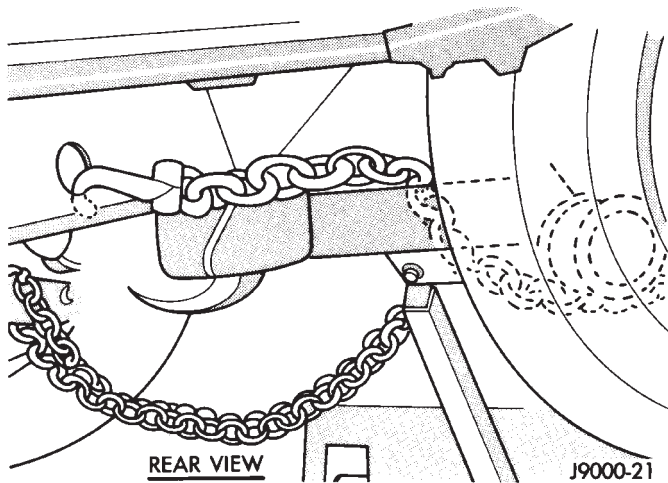

Fig. 5 Sling-Type, Front-End Towing (XJ Rear View)
- (1) Attach a J-hook to the disabled vehicle at the left side of the axle.
- (2) Position the sling crossbar close to the J-hook and below the front bumper.
- (3) Secure a chain to the right side of vehicle by placing it over the axle shaft tube and attaching it to a structural member (Fig. 5).
- (4) Attach the safety chains to the vehicle.
- (5) Turn the ignition switch to the OFF position to unlock the steering wheel.